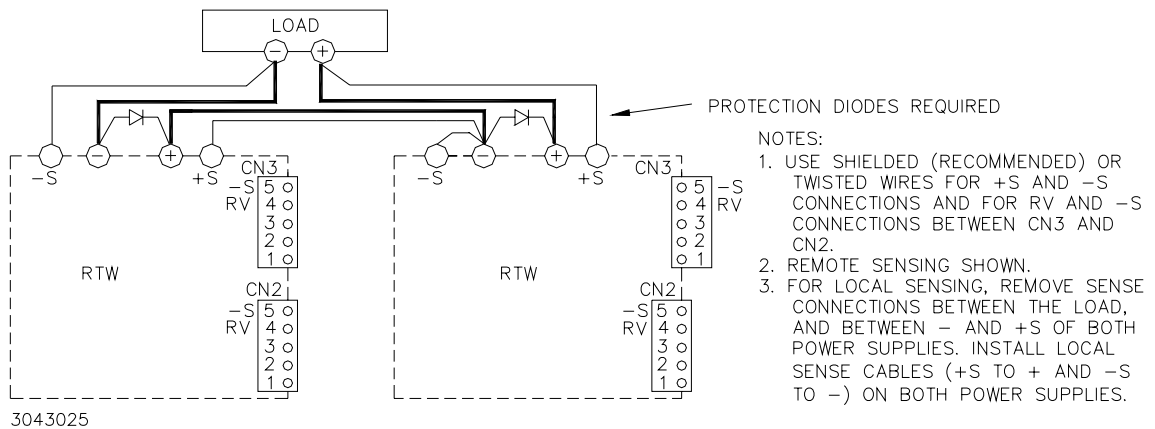

FIGURE 11. SERIES CONNECTION
Units may be connected in series to obtain higher voltages. When a number of power supplies are operating in series, the current rating is to be limited to the rating of the power supply with the lowest rating. Each Power Supply in series should be protected by a diode connected in parallel with the output as shown in Figure 11. The diode protects against reverse voltages. It should be rated for typically,  $V_{REVERSE} \geq 2 \times \sum V_{OUT}$  of the series connection,  $I_{FORWARD} \geq 2 \times I_{OUT}$  of the series connection. Optional Cable Kit 219-0497 (PAR. 6.6) may facilitate CN2/CN3 connections, however the wire at pin 3 (CB) must be cut.